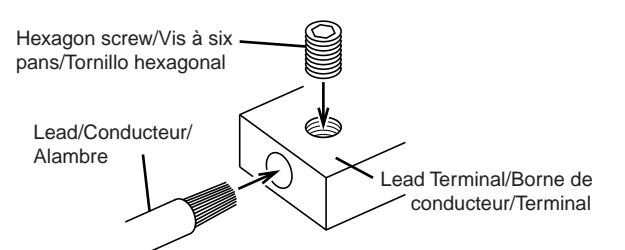

Fig. 4
- Remove the screw attached on the unit. Insert the lead end into the lead terminal. Tighten the hexagon screw with the hexagon wrench, and the lead will be fixed. (Fig. 4) **Before making this connection, dress a short-circuit prevention rubber tube to the leads.**